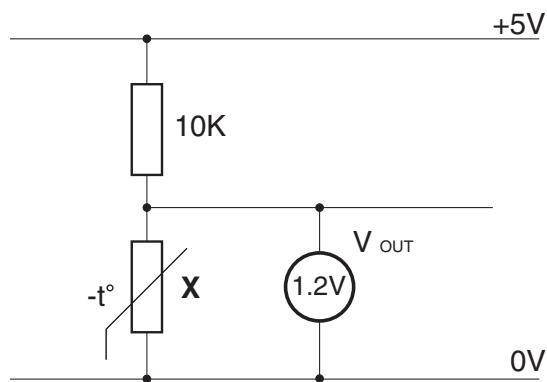

Fig. 5
- 2 (a) A potential divider circuit to provide input for a temperature sensor unit is shown in Fig. 5.